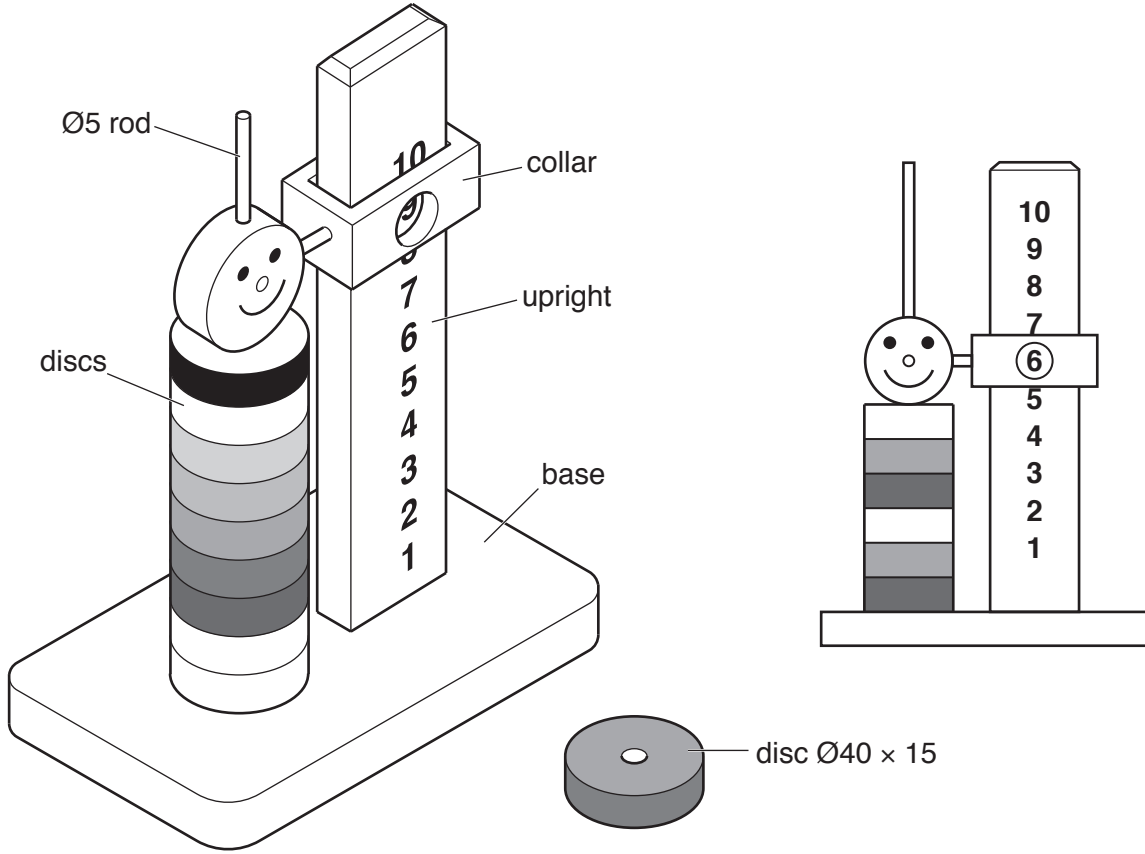

Fig. 9
- 11 Fig. 9 shows views of a child’s counting toy. When the discs are stacked on the rod, the collar slides down on top of the discs to show the number of discs stacked.